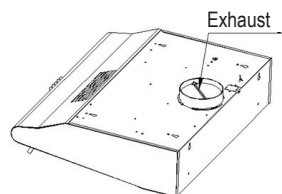

Fig. 5
- Connect the external vent to the plug with power supply from the external wall (Fig. 5).